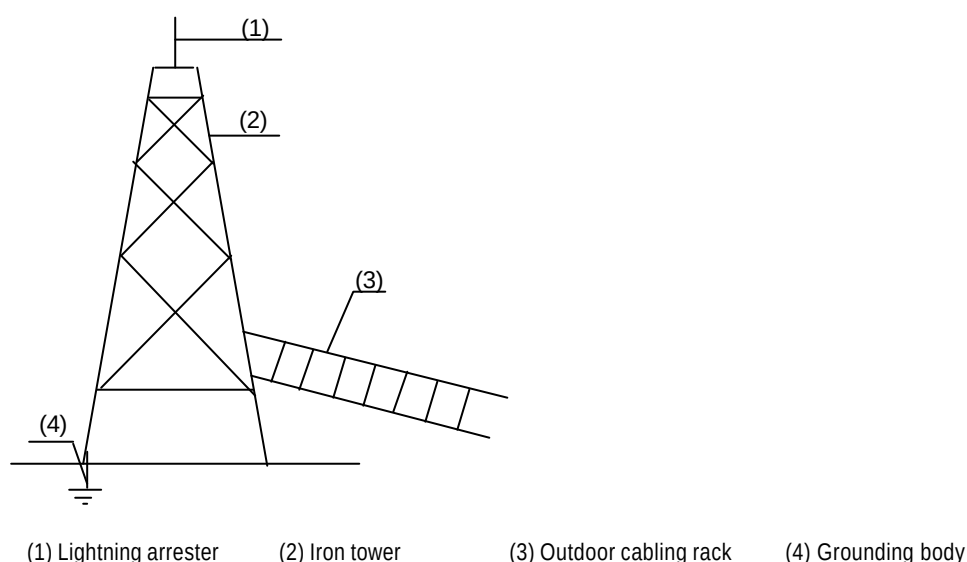

Figure 5-2 Grounding of outdoor cabling rack
- 1) Generally, outdoor cabling racks are soldered with the tower directly to ensure a good connection with the ground. If the outdoor cabling rack does not contact the tower directly, connect the tower with the outdoor cabling rack by soldering a flat steel bar to ensure a good connection, as shown in Figure 5-2.